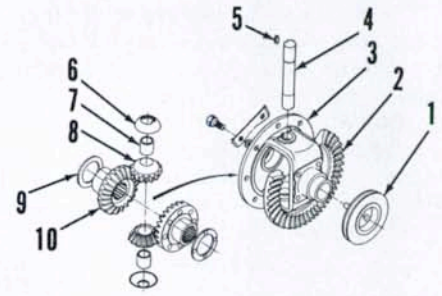

Fig. 127—Exploded view of differential assembly and related components used on Model L285. Refer to Fig. 126 legend except for shaft oil seal (22).
of cam (21 - Fig. 127), then withdraw actuator pedal (17) and lift out cam, shift fork and spring. Drive oil seal (14) out right side of housing. Differential unit must be removed to remove differential lock shifter (1).